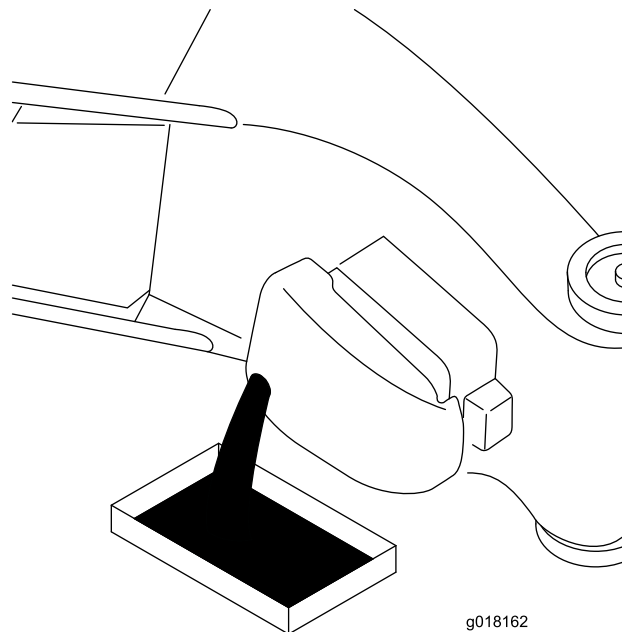

Figure 18
3. Tip the machine onto its side, with the air filter up, to drain the used oil out through the oil-fill tube (Figure 18).